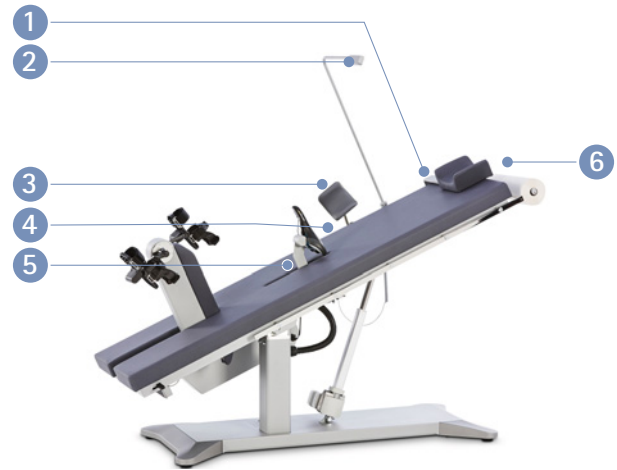

Figure 4–9: Mounting attachment parts
- Install, position, and secure the headrest ① .
- Install, position, and secure the speed readout for the patient ② .
- Install, position, and secure the bracket for the armrest ③ on the right or left standard rail (only on devices with blood pressure module).
- Connect the blood pressure cuff ④ (see figure 4–8).
- Introduce the saddle post ⑤ in the saddle guide rail (see figure 4–9).
- Attach the exam table paper roll to the holder ⑥ .